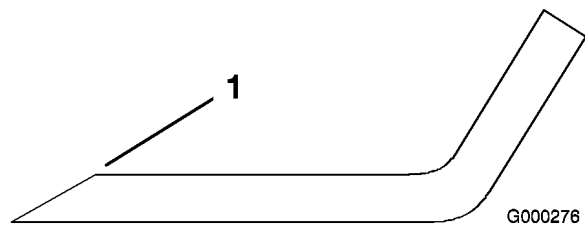

Figure 75
1. Use a file to sharpen the cutting edge at both ends of the blade (Figure 75). Maintain the original angle. The blade retains its balance if the same amount of material is removed from both cutting edges.